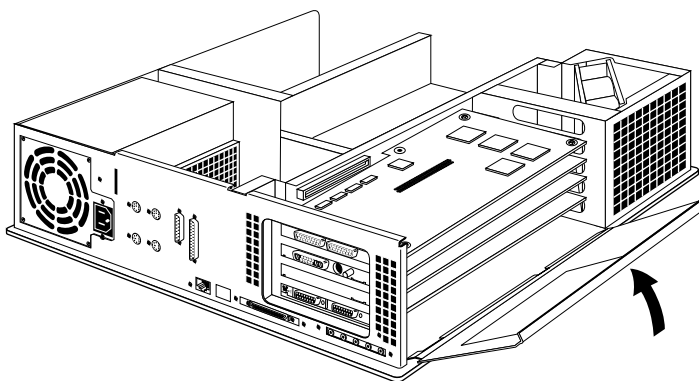

Figure 5-2 Closing the metal panel
1. Tip the metal panel in front of the slots up until it snaps into place, as shown in Figure 5-2.